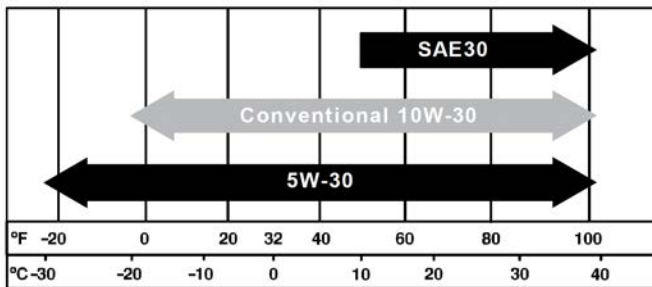

Figure 17 - Recommended Oil
1. Only use the engine oil specified in Figure 17.
6. Select the proper engine oil as specified in Figure 17.